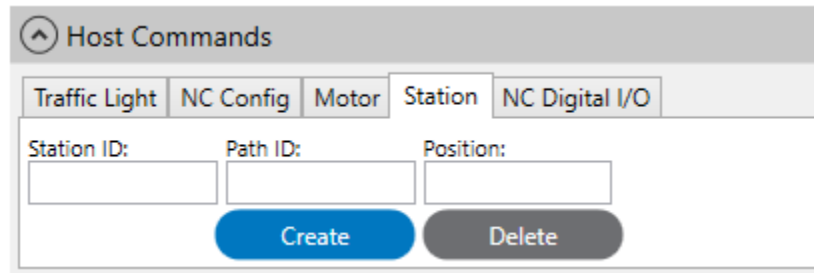

Figure 2-88: Host Commands Section – Station Tab
Use the **Station** tab in the **Host Commands** section of the **Settings** panel, which is shown in Figure 2-88, to create or remove temporary stations that are used by NCHost during testing. Once station locations have been verified, edit the Node Controller Configuration File (*node_configuration.xml*) using the MagneMotion Configurator to update or add the stations.
2. In the **Host Commands** section, select the **Stations** tab (see Figure 2-88). See Station Tab on page 184 for detailed descriptions of all items.